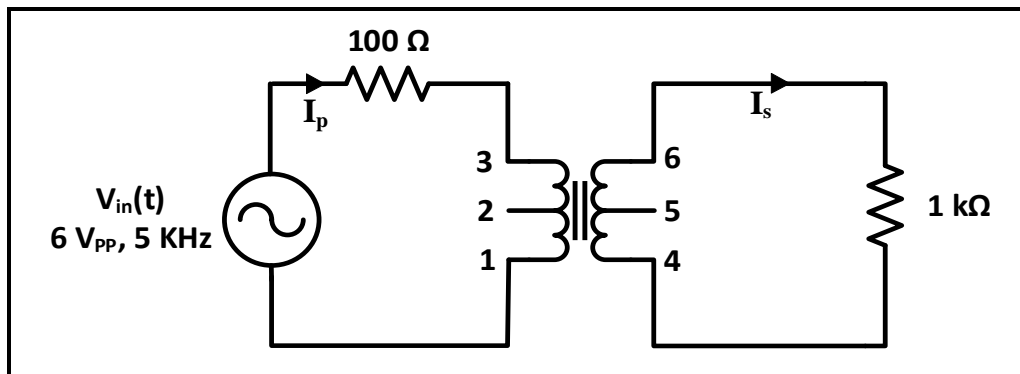

Figure 6.5
1. Connect the circuit of Figure 6.5, set $V_{in}(t)$ to sinusoidal voltage with $6 V_{PP}$ and $f = 5$ kHz.